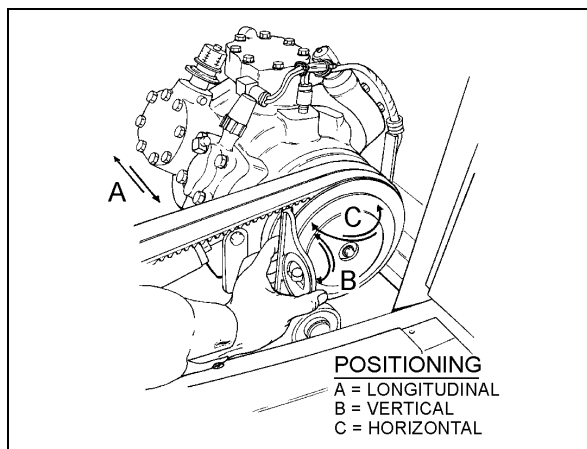

FIGURE 26: COMPRESSOR ALIGNMENT
1. Rest an extremity of a straight edge of approximately 46 inches (117 cm) against the upper part of the outer face of crankshaft pulley, positioning the other end close to the compressor clutch pulley (Figs. 26 & 27).
2. Check the distance between each extremity of straight edge (1. Fig. 26) and the first drive belt. If they are different, loosen the compressor support bolts and with a hammer, knock support to slide it in order to obtain the same distance; then tighten bolts.
Rest a short "angle and level indicator" on the outer side face of the crankshaft pulley, adjust the level indicator inclination at  $0^\circ$  and check if the compressor pulley is at same angle (Fig. 26). If it is not the same, shim under the appropriate pillow block in order to obtain the correct angle.